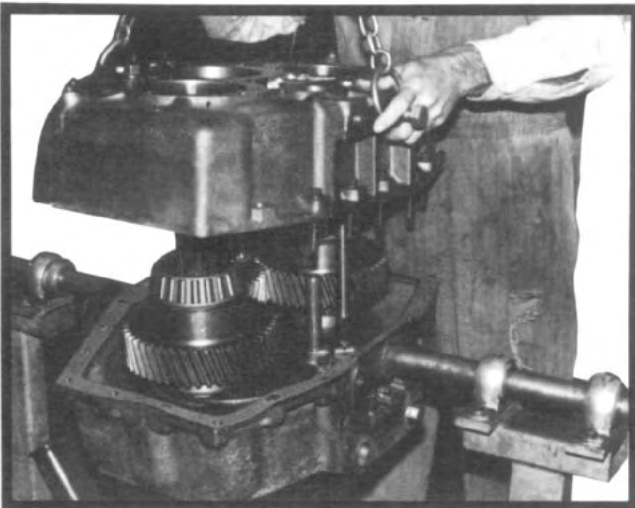

Fig. 17
8. Install main housing gasket with sealer and place rear half of main housing over shaft assemblies and onto the front half guiding shift rails through bores (see fig. 17). Secure two halves together with the shoulder bolts and 12 point capscrews. Tighten bolts to correct torque.